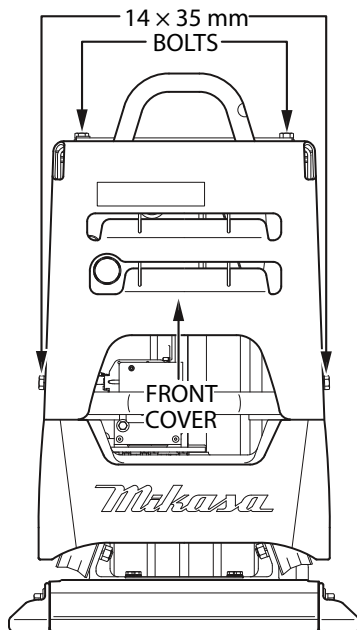

Figure 28. Front Cover Removal
2. Remove and set aside the four 14 x 35 mm bolts securing the front cover to the compactor (Figure 28). Remove the front cover and set it aside.